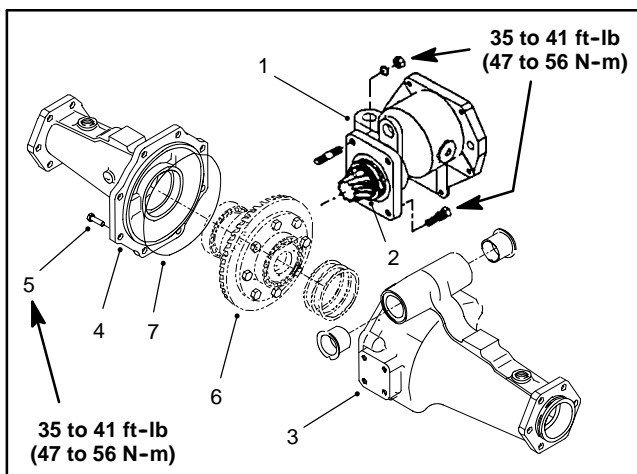

Figure 36
3. Remove input shaft/pinion gear assembly, shims and O-ring from the axle support (Fig. 36).